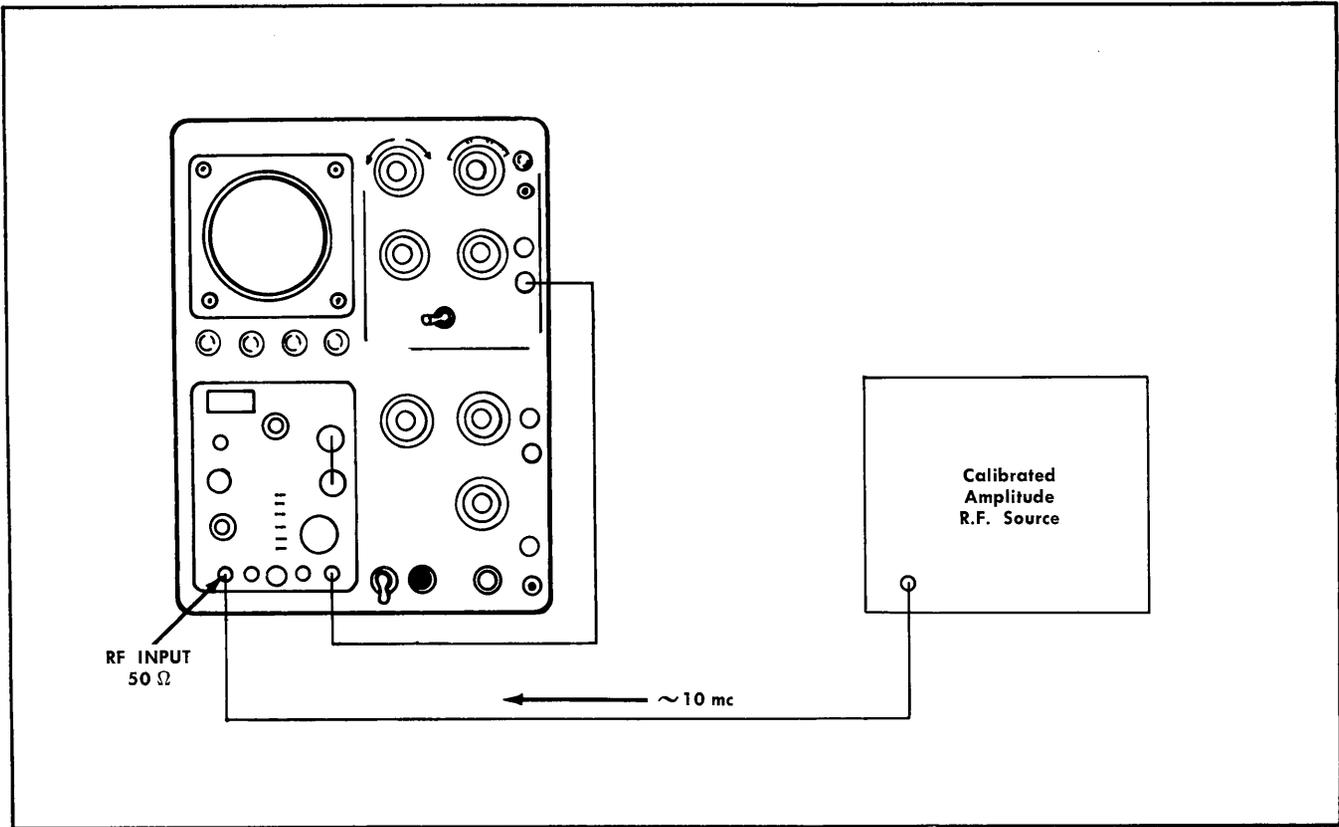

Fig. 4-2. Equipment setup for making sensitivity check.
2. Apply the output signal of the calibrated amplitude r-f generator to the RF INPUT 50Ω connector of the Type 1L10 (see Fig. 4-2). Set the output of the generator for about -50 dbm.